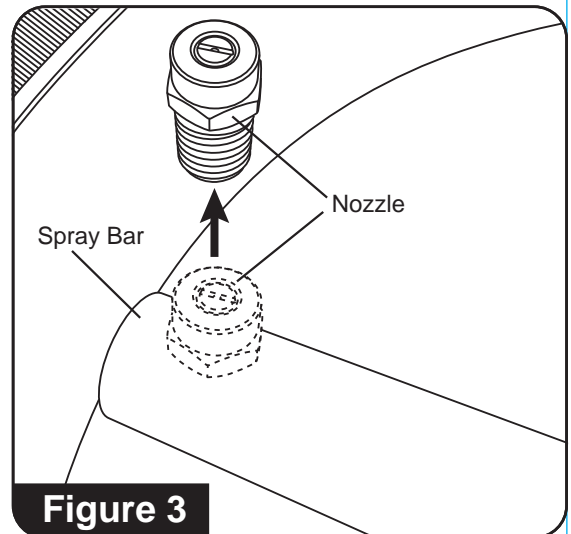

**Figure 2**
1. Squeeze the trigger and move the surface cleaner back and forth and/or side to side to begin cleaning (**See Figure 2**).